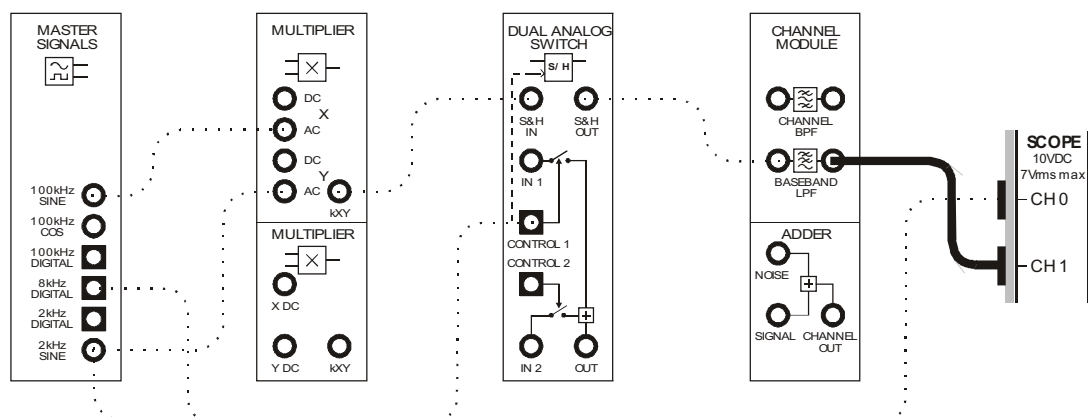

Figure 5
23. Modify the scope's Channel 1 connection to the set-up as shown in Figure 5 below.